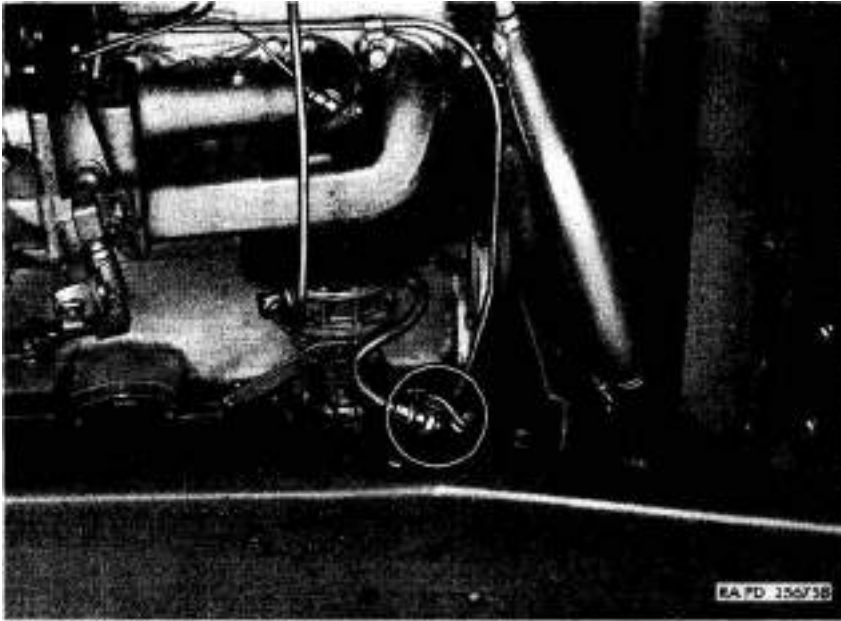

Figure 25. Fuel line disconnect points.
- (4) Close fuel filter-to-fuel pump shut off cock near fuel pump and disconnect fuel filter-to-fuel pump flexible line at shut-off cock (*fig. 25*).